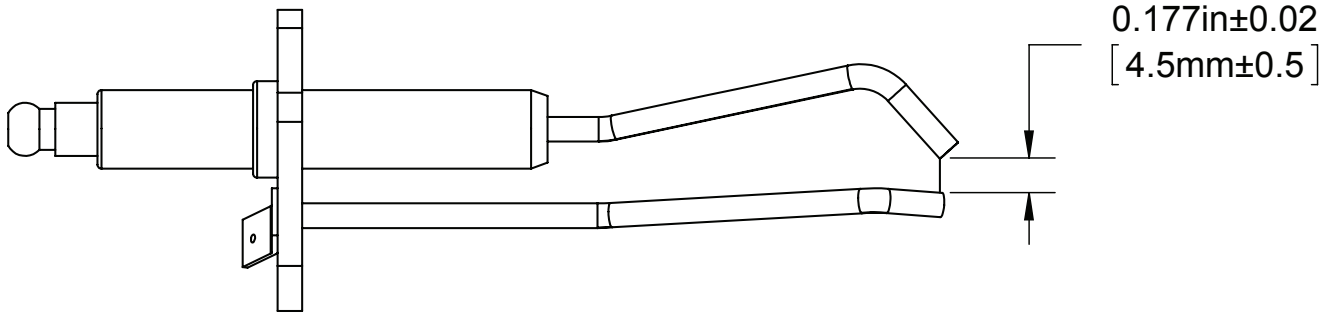

Figure 13.3: Igniter Gap
- m. **Inspect igniter electrode and flame sensor** for deposits. Clean any found with steel wool. Do not use sand paper or Emory cloth for this cleaning. Inspect the ceramic portion of both of these parts for cracks and replace if any are found. Verify that the igniter gap is within the range shown in Figure 13.3.